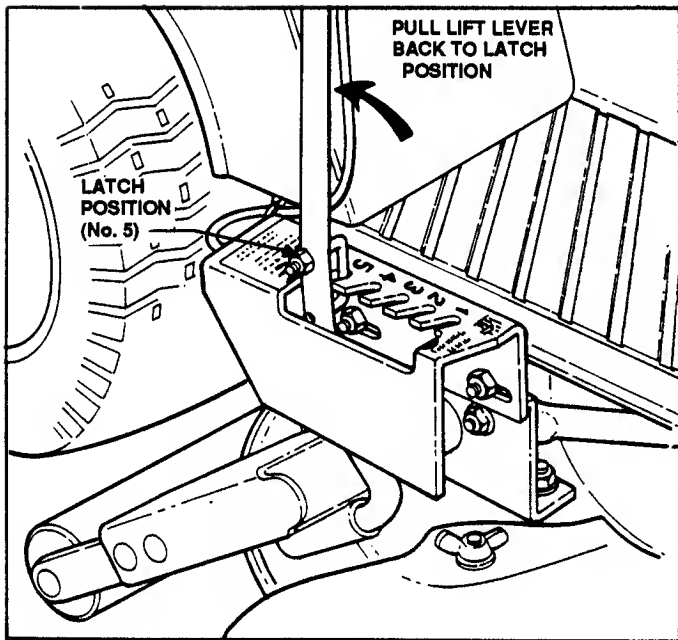

FIGURE 15
1. Pull deck lift lever back to LATCH POSITION. See Figure 15.